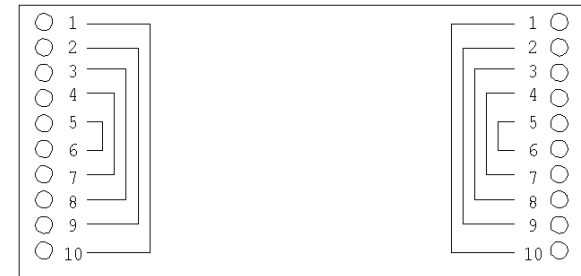

Figure 4. 52X-TS Differential Pairing and Pin Numbers
5. Connect the wires to the terminal blocks. Use Figure 4 to ensure that each wire of the 52X-TS is connected to the correct corresponding pin number on the opposite side of the protector. Also shown in Figure 4 is the proper wire pairing for the 52X-TS.